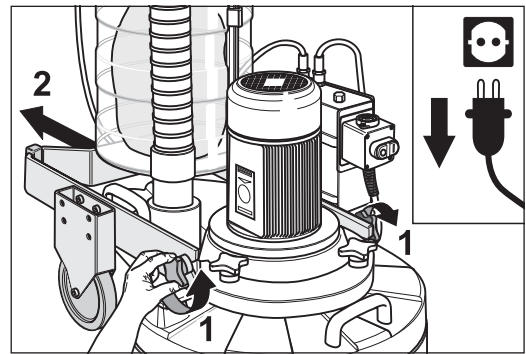

Fig. 90 The chassis can be moved backwards once the cross grip fasteners have been loosened.
- 7 Loosen the two cross grip fasteners at the side by which chassis is attached to machine housing (fig. 90, 1) and move the chassis backwards (fig. 90, 2).